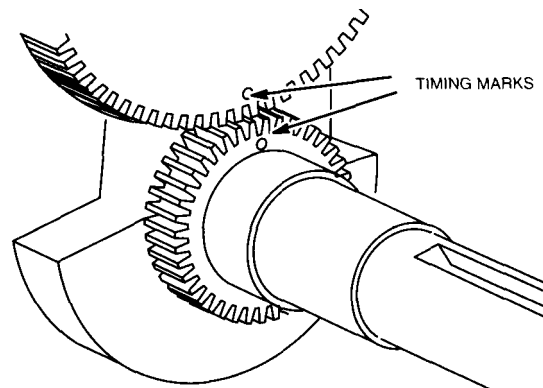

Fig. 4 - Align Timing Marks
4. Rotate crankshaft and camshaft until timing marks align and remove camshaft, Fig. 4.